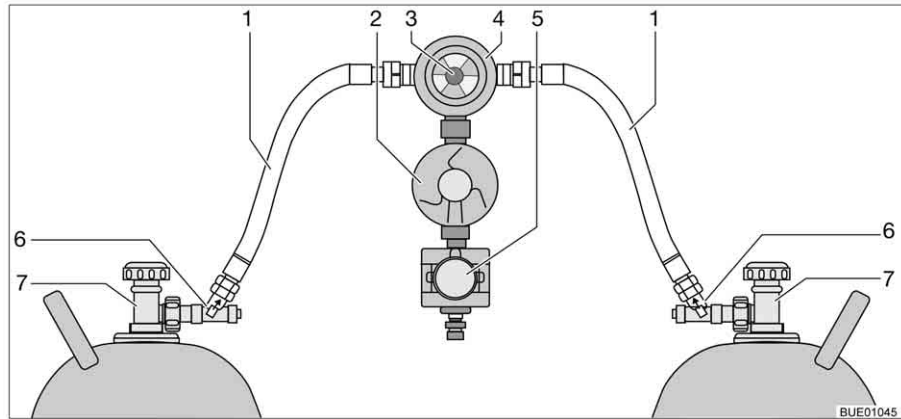

Fig. 110 Crash protection unit switching facility
The crash protection unit consists of two flow restrictors with manual release button (Fig. 110,6) a reversing valve (Fig. 110,4) with pressure regulator (Fig. 110,2), an electrovalve (Fig. 110,5) and the operating unit with tricoloured LED. The reversing valve is installed between the two gas tubes (Fig. 110,1).
Use the knob (Fig. 110,3) on the reversing valve to select which of the gas bottles is to be used as a primary bottle and which is to be used as a reserve bottle.
Only the electrical functions can be switched at the operating unit (Fig. 111). The regulator taps on the gas bottles (Fig. 110,7) and the release buttons (Fig. 110,6) must be opened manually.
- Open the regulator taps of the gas bottles (Fig. 110,7).
- Press the release buttons (Fig. 110,6) successively for 10 seconds.
- Use the knob (Fig. 110,3) on the reversing valve (Fig. 110,4) to select the gas bottle which is to be the primary source of gas (primary bottle). Always turn the knob as far as it will go.
- Close the regulator taps of the gas bottles (Fig. 110,7).